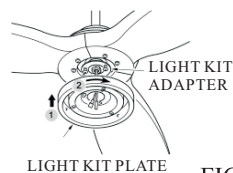

FIG.12
2. Gently pull the wire through light kit plate. Have the key hole over the loosened screws. Turn the light kit plate until it get the end of narrow end. Then, tighten the previously removed and loosened screws. (See Fig 12 & 13)